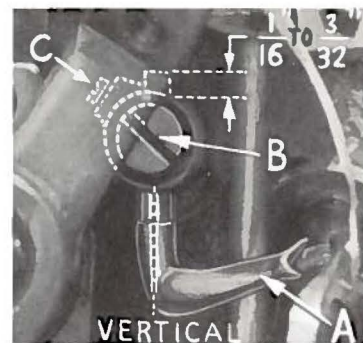

Fig. 8
Insert upper spreader (A, Fig. 8) in its holder. Screw (B) holds upper spreader in its holder, and permits it to be pushed in or out, or turned around its shank. Insert spreader holder into spreader shaft, if it is not already in place. Screw (C, Fig. 8) on clamp collar holds spreader holder in the shaft, and allows holder to be rotated or adjusted laterally.
Preliminary Setting: When upper spreader is at the right end of its stroke, spreader holder should be set to position spreader shank approximately vertical (Fig. 8). Top end of spreader shank should extend $\frac{1}{16}$ to $\frac{3}{32}$ inch above the spreader holder (Fig. 8).